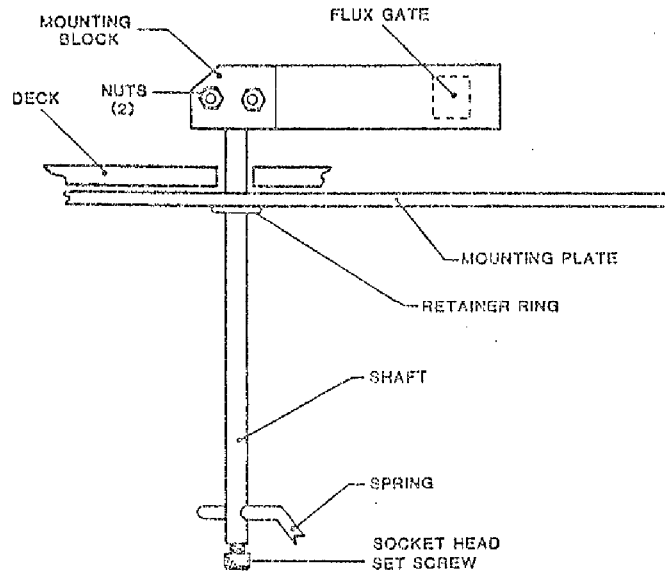

Figure 5-20.
5.3.24 FLUX GATE (Figure 5-20)